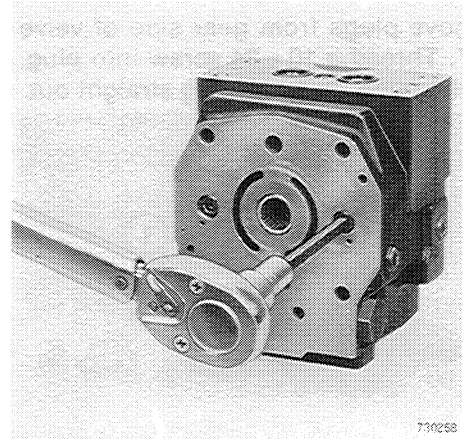

Figure 5
See Figure 5. The main parts of the hydrostatic motor are the housing; the gerotor, which turns the drive link and the coupling shaft; the manifold plate, which sends oil to the gerotor; the manifold; and the commutator, which controls the direction of pressure and return oil.
3. To remove valve plate from transfer block, remove two Allen head screws, Figure 5.